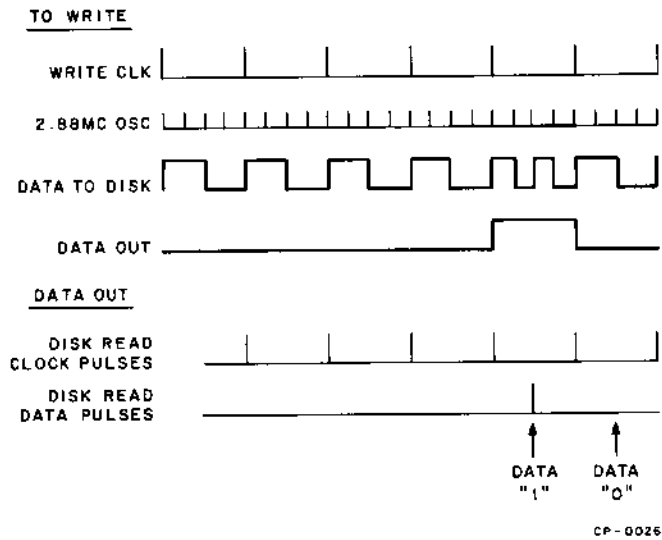

Figure 5-1 Data to Disk Timing Diagram
When the R/W flip-flop is first set to the 1 state, the DATA OUT flip-flop is in the 0 state. The DATA TO DISK flip-flop complements on every other pulse of the 2.88 MHz oscillator with this being the base frequency. For example, to write one data bit, DATA OUT (1) L causes the DATA TO DISK flip-flop to complement on every oscillator pulse, which is the double frequency. When this serial information is read by the discriminator circuit in the disk drive, the base-frequency pulses generate Disk Read Clock pulses and the double frequency appears as Disk Read Data pulses between the Disk Read Clock pulses (see Figure 5-1).